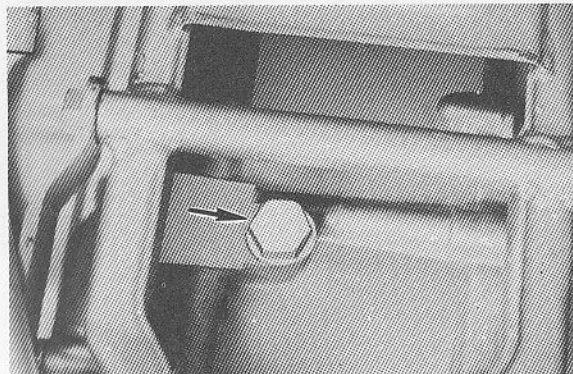

Fig. 2-5-16
c. A drain bolt is located on the bottom of the crankcase. (Fig. 2-5-16)
c. Un boulon de purge est situé au fond du carter. (Fig. 2-5-16)